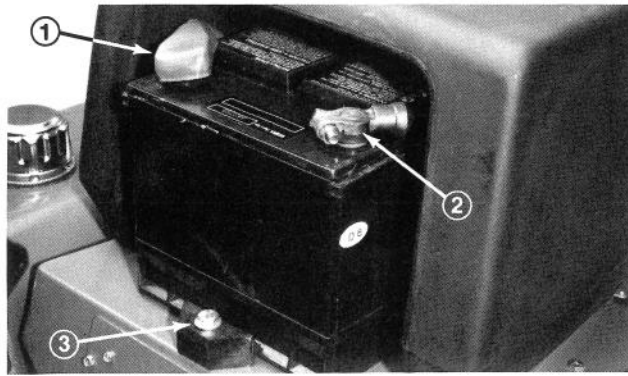

Figure 3
1. Ensure battery (Fig. 3) is securely fastened in place and check battery charge with a hydrometer. If battery needs charging, be sure at least one battery cable, preferable the negative (-) cable, is disconnected from the battery before connecting the charger.